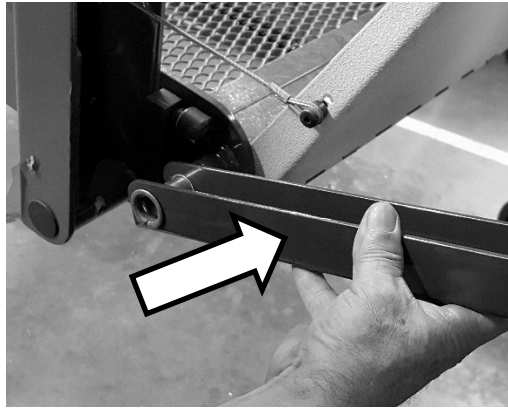

Figure 7. Lower Knuckle Link Arm
1. Refer to **Figure 7**. Slide lower portion of Knuckle Link Arm onto platform pivot.